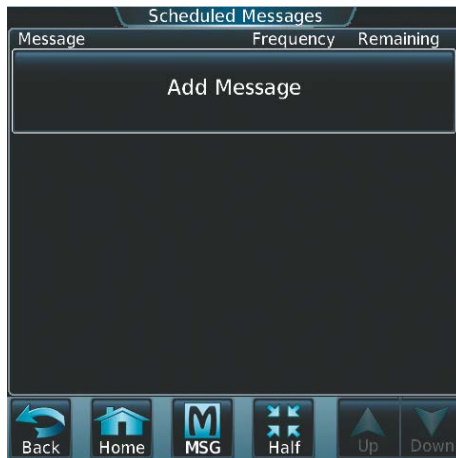

Figure 8-119 Touch Add Message
- 2) Touch the **Add Message** Button as shown in Figure 8-119.